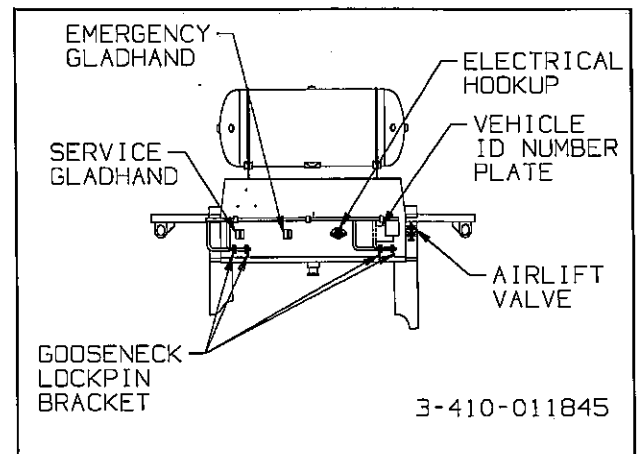
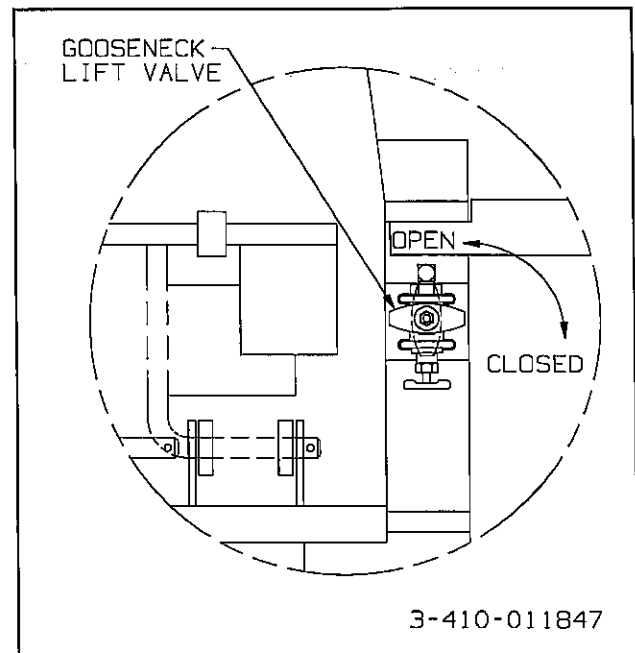

Fig. 3-1 Service Hookups (Front View)
Figure 3-2 Gooseneck Lift Valve
**3-2.4** Connect the service and emergency air hoses of the towing vehicle to their respective gladhand on the front of the semitrailer. The towing vehicle's air hose couplings are attached and locked to the appropriate gladhands; **red emergency line** to the gladhand with the "EMERGENCY" tag, and the **blue service line** to the gladhand with the "SERVICE" tag (See Figure 3-1). Chock the trailer wheels before activating the semitrailer air supply valve in the towing vehicle. Set the trailer brakes.
3-4.1 Connect the towing vehicle 7-way electrical plug to the electrical receptacle on the front of the semitrailer (See Figure 3-1).
**3-11.2** Locate the GOOSENECK LIFT VALVE (See Figure 3-2) on the driver's side of the semitrailer gooseneck (See Figure 3-1).